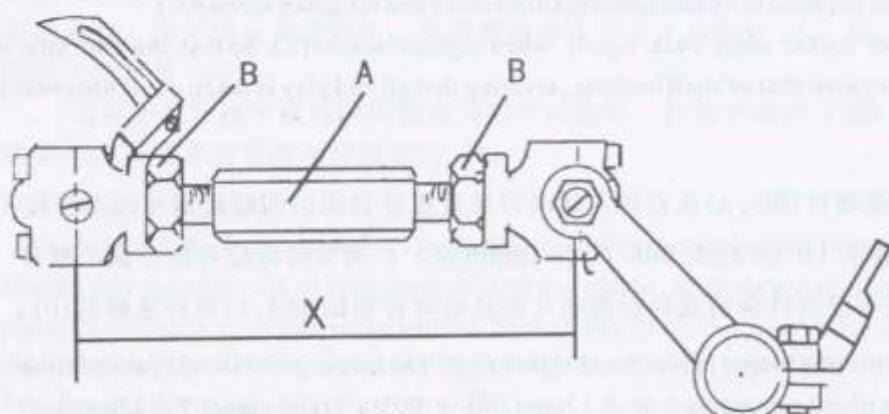
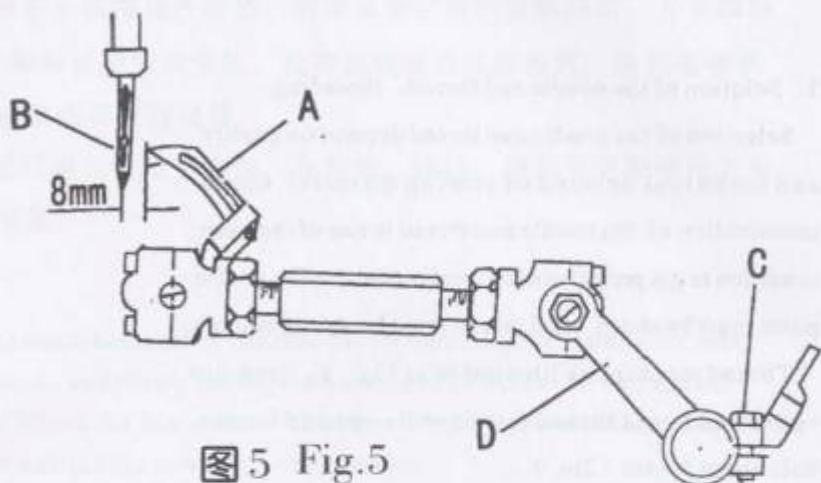
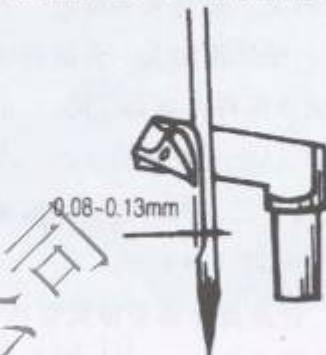
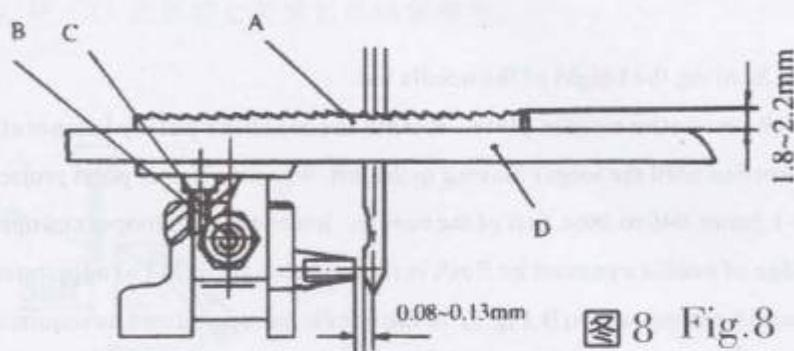

图 4 Fig.4
图5 Fig.5
图 6 Fig.6
图 8 Fig. 8
(一) 首先调节连接杆(图4, A),使两球轴承(X)中心线间距为69.8毫米( $2\frac{3}{4}$ 英寸), 调节时拧松二个螺母(B), 顺旋或倒旋连接杆(A)使(X)距离符合要求后再锁紧螺母。
(1). First set the looper connecting rod(A, Fig. 4), so the distance (X, Fig. 4) between the centerlines of the two ball joints is 69.8mm( $1\frac{3}{4}$  min.). For adjustment loosen the two nuts(B) and turn connecting rod (A) forward or backward as required to obtain specified dimension. Retighten nuts(B). Caution: The left nut has a left hand thread.
带轮，使针杆下移至最低点，同时弯针退至最右边位置，此时弯针(图5, A)尖和机针(B)的中心线距离为8毫米(5/16英寸)。调节时拧松弯针外曲柄的两只螺钉(C)，左右转动弯针外曲柄(D)，调节至需要的尺寸后再拧紧螺钉(C)。
(2). Rotate the machine pulley clockwise by hand, so that the needle bar moves to the lowest point, at the same time the looper moves back to its farthest position to the right. The distance from the point of the looper (A, Fig.5) to the centerline of the needle is 8mm(5/16in). For adjustment, loosen two screws(C) in the looper drive lever, rotate looper drive lever(D) left or right as required to obtain specified dimension and retighten screws(C).
(三) 继续转动皮带轮，使弯针(图5, A)从右向左运动时靠近机针背面的凹形处通过而不得接触，其间隙为0.08毫米-0.13毫米(0.003至0.005英寸)(图6所示)。调节时拧松弯针小偏心摇杆(图4, C)的螺钉(图4, D)，按需要把弯针向前或向后摆动从而转动弯针架轴(图4, E)再拧紧螺钉(D)。
(3) Rotate the machine pulley so that the looper moves from right to left. The looper point should pass as close possible to the back of the needle without contacting 0.08 -0.13mm(.003 to .005in.) (clearance). For adjustment loosen screw(D, Fig. 4) in the looper eccentric fork (C) and turn rocker shaft (E) on the looper rocker with looper forward or backward as required. Retighten screw (D).
缝纫时由于袋边接缝处厚度不一致，往往会使机针侧在缝料厚薄交界处而弯曲或发生故障，而机针挡块(图5E)则可起到保护作用。两者的间隙为0.08~0.13毫米(0.003至0.005英寸)，(图8所示)。调整时将皮带轮按工作方向转动，使机针挡块靠近机针，拧松牙架上(图5，F)紧定螺钉(G)，移动机针挡块(E)至合适间隙后再拧紧螺钉(G)。
The needle will bend or break when abutting bags made of different thickness of sewing material. And the needle guard (E, Fig. 5) will protect the needle. The clearance between the needle and the needle guard is 0.08 -0.13mm(.003 to .005in. )(Fig.8). For adjustment, rotating pulley in the direction of operating, so that the needle guard moves against the needle. Loosen set screw(G) on feed dog holder(Fig.5), move the needle guard accordingly. Retighten screw (G).
根据缝料质量与厚度确定送料牙(图8，A)高度。对于布袋、塑料编织袋等薄料，齿面应高出针板(D)上平面约1.8毫米(0.070英寸)，麻袋约2.2毫米(0.090英寸)，调整时先将送料牙行至最高点，卸下针板和送料牙。按需要的高度调节支承螺钉(C)后，重新装上送料牙和针板，并固紧六角螺母(B)。
The height of the feed dog(A, Fig. 8) are determined by the quality and thicknees of the sewing materials. For closing thin material such as bags made of cloth and plastic, teeth should project 1.8mm(.070in), above the throat plate(D) top surface, and for sacks about 2.2mm (.090) above the throat plate. For Setting, move the feed dog to the highest position, remove throat plate and feed dog, adjust the supporting screw (C) as required, remount the feed dog and throat plate. Retighten nuts (B) .